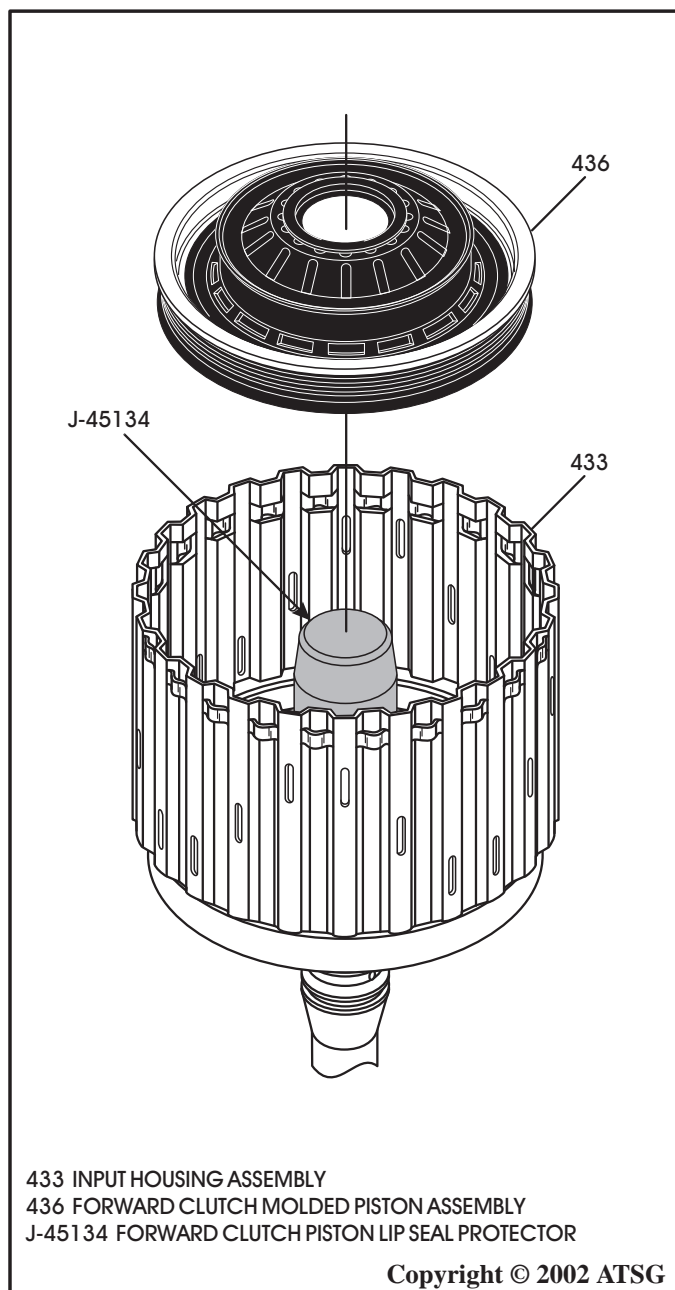

Figure 86
6. Place forward clutch housing on a foot press and install J-45134 seal protector on forward clutch housing, as shown in Figure 86.
8. Install the forward clutch piston, as shown in Figure 86, by rotating into position.